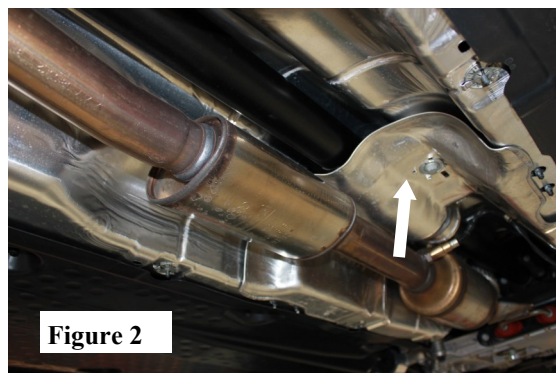

Figure 2
2. Remove heat shield from vehicle. (See Fig. 2)